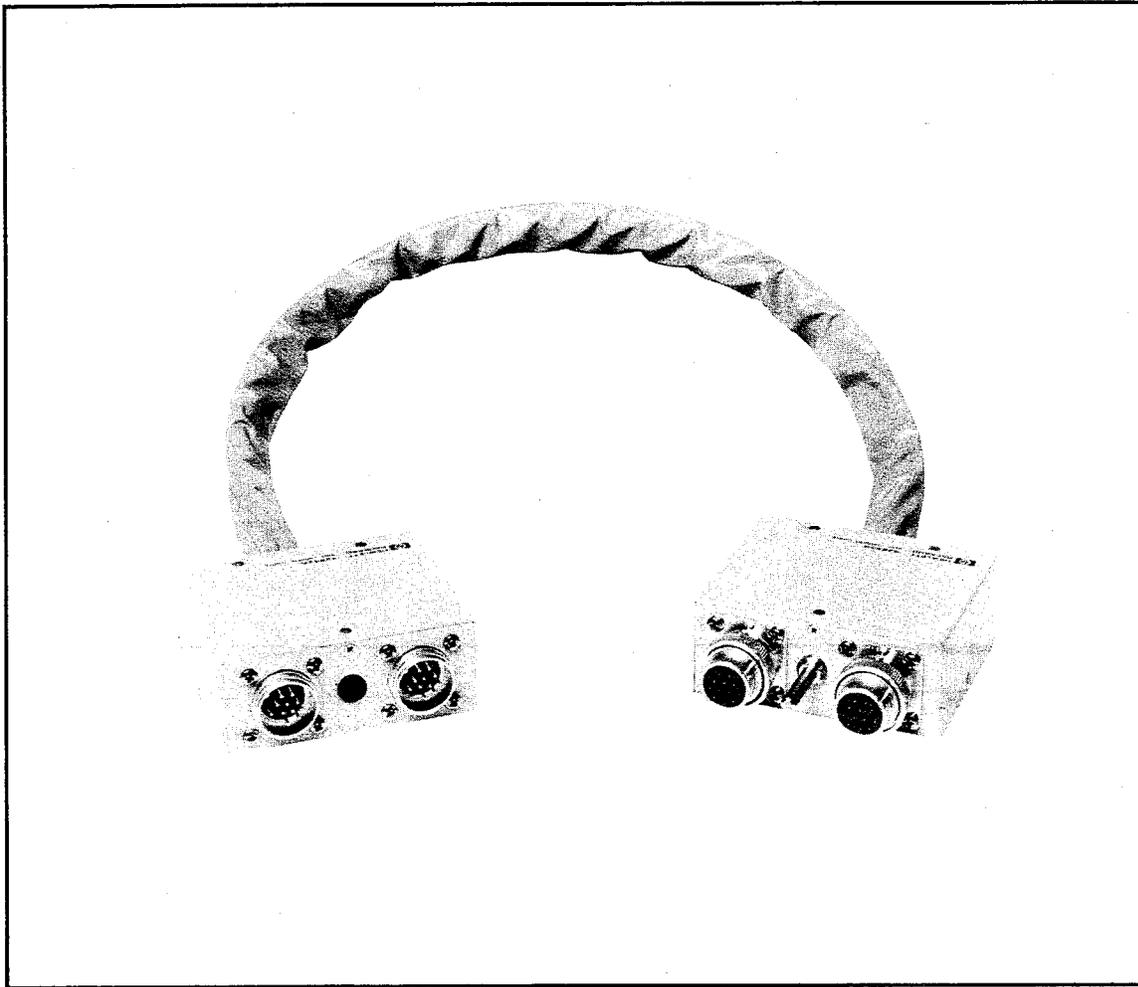

Figure 3-1. HP 42843A
2. Verify that the shipping container contains everything shown in Figure 3-1